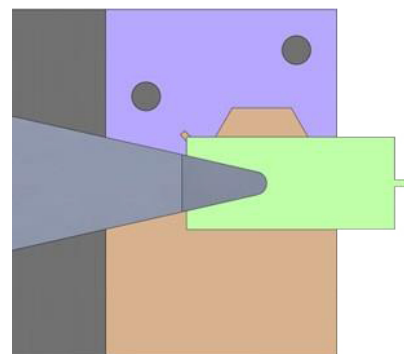

Figure 3.4.4 Proper probe position in the
- Using tweezers place the probe under the clip as shown on fig. 3.4.4.